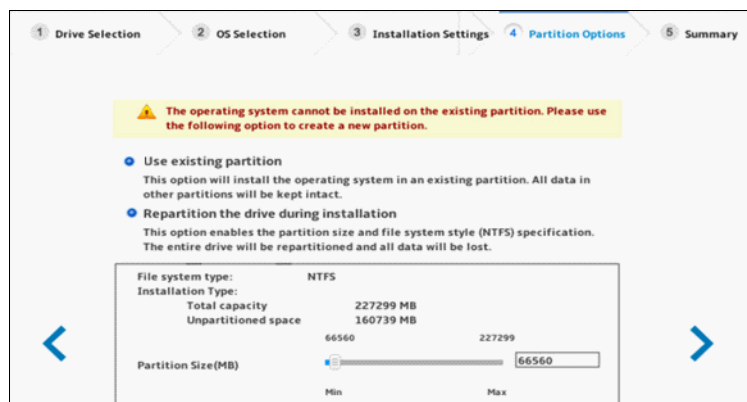

Figure 6-34 Summary
9. Clarify the settings are correct in the **Summary** tab and click **Next** to begin the installation as shown in Figure 6-34. The Windows installation will now begin.